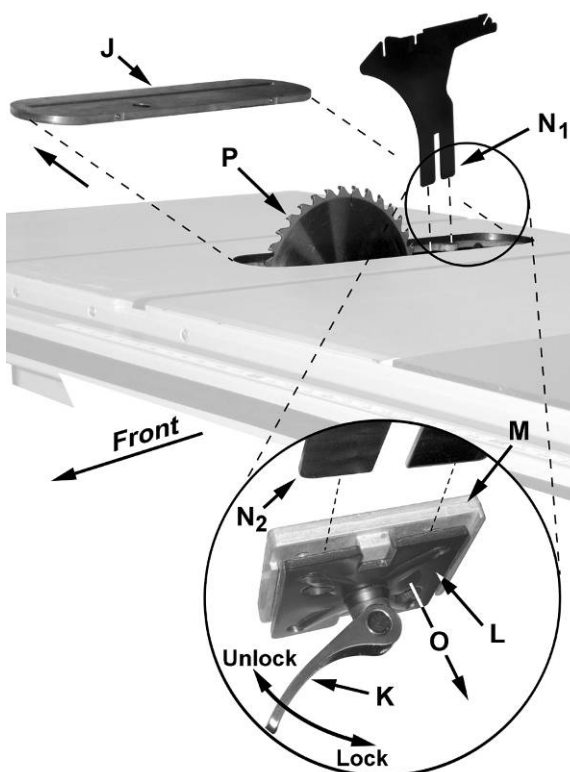

Figure 8
4. Rotate the arbor to line up the *slot* (C) with the *arbor lock* (D).
5. Press the *arbor lock* (D) in the direction shown by the arrow to engage it into the *slot* (C) in the *arbor*. At the same time remove the *arbor nut* (A), loosening with a 27mm wrench if necessary.
6. Remove the *collar* (B).
7. Install the blade, making sure the cutting teeth at the top of the blade point toward the front of the saw. If unsure, refer to Figure 8 for the proper blade orientation.
8. Replace the *collar* (B) and *arbor nut* (A).
9. Engage the *arbor lock* (D) and tighten the *nut* (A) with a 27mm wrench.
Referring to Figure 8:
3. Remove the table insert (J).
4. Located inside the table and accessible through the insert opening (Figure 8 inset), place the quick-release clamp lock handle (K) in the unlock position.
5. The floating clamp block (L) is spring loaded and will move away (O) from the fixed block (M), leaving a gap.
6. Insert the bottom of the riving knife (N1, N2) all the way into the gap between the *clamp blocks* (L, M); then lock the *handle* (K).
7. Replace the *insert* (J) back on the table. The saw blade and riving knife should protrude through the slot in the insert.
The clamping blocks (L, M, Fig. 8) are adjusted at the factory and no further adjustment of the blade guard and riving knife assembly should be necessary. However, **proper alignment is very important**. Before operating the table saw, read *Riving Knife Adjustment* (p.14) to verify and follow the adjustment procedure if necessary.